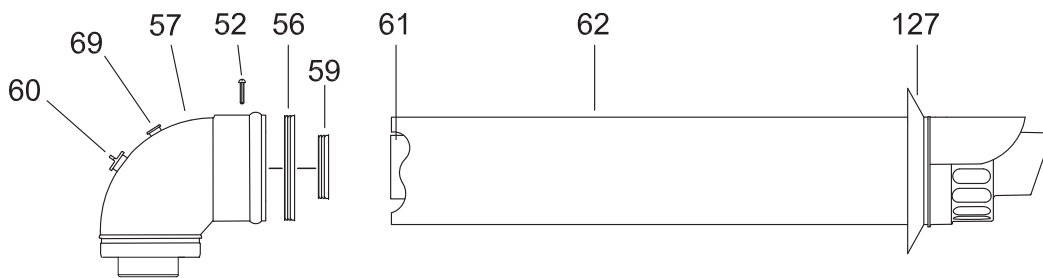

Fig 10
### HORIZONTAL FLUE KIT BOX CONTAINING (Fig 10):
**Note:** Add 30 mm to allow for terminal rubber wall seal (fig.10 item 127).
Working above the boiler pull the flue duct towards the elbow in order to engage the tube into its header (fig.10). Position the flue elbow in line with the flue and push so as to locate inner and outer flue correctly. Ensuring a good seal is made with O-rings. Tighten the two screws on the flue flange to secure the elbow header in place.
Terminal rubber wall seal must be fitted (127 fig.10 item 127).